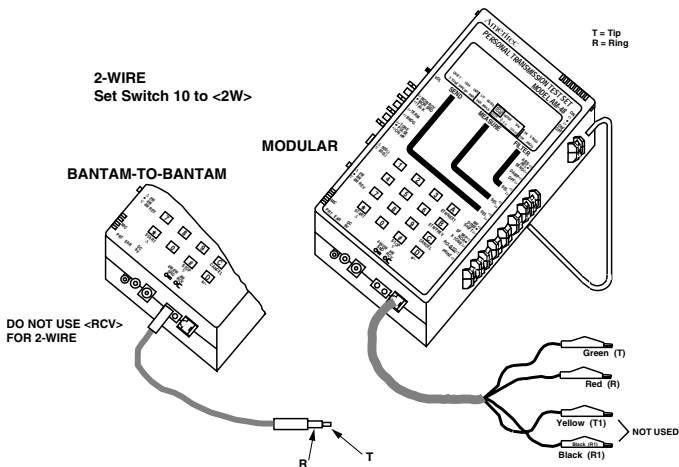

Figure 6-1. 2-Wire AM-48 Line Connections
Line Connection Cables. The RJ-11 (modular) and three (3) Bantam cables illustrated in Figures 3-4 and 3-5 are used for line connections. Use these cables as required to connect the AM-48 to 2-wire or 4-wire lines. Figures 6-1 and 6-2 illustrate and define Modular and Bantam line connections. Be sure to set Switch 10 (Figure 3-5) to the appropriate position as indicated in the Figures.
4. Connect the line cable to the 2-wire or 4-wire line per Figure 6-1 or 6-2.